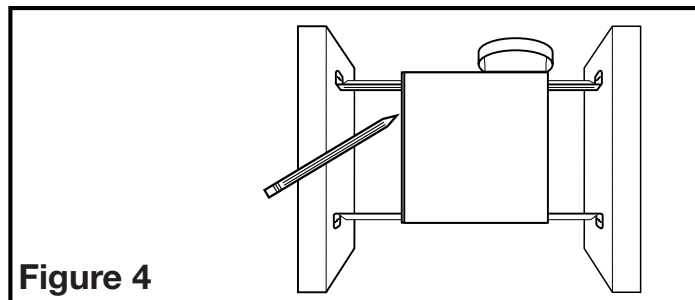

Figure 4
- Set housing in position between the joist and trace an outline onto the ceiling material (Figure 4). Set housing aside and cut opening, being careful not to cut or damage any electrical or other hidden utilities. Install the rails on the housing and position the housing in the previously cut hole so that it is flush with the finished ceiling. Secure the ends of the rails to the joists (Figure 3).